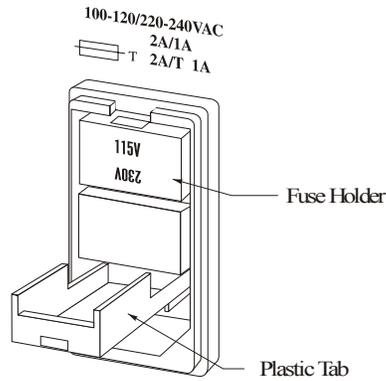

Figure 9. Pull down the plastic tab.
2. Remove the voltage cartridge from the module, as shown in Figures 9 and 10, and flip the cartridge around so that the alternate voltage reading will now be displayed.